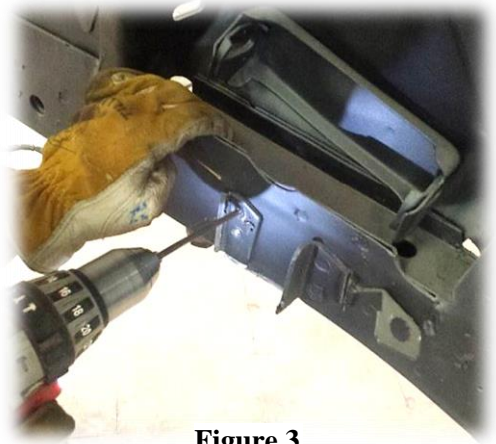

Figure 3
11. Locate the factory bump stops on both sides of the frame rails. There will be two bump stops per side. Remove the bump stops by drilling out the spot welds. **(Figure 3)** After removing the bump stops, touch-up the frame using paint or undercoating to prevent corrosion.